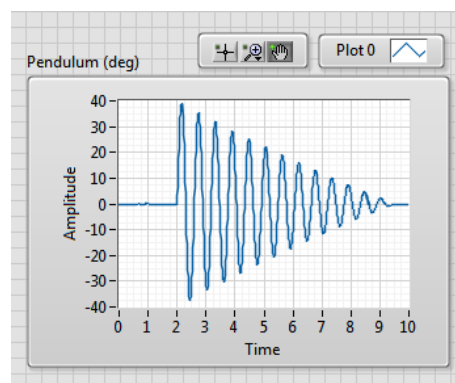

Figure 8.3: Free-oscillation response of pendulum
3. Run the VI. With the controller running, manually perturb the pendulum while holding the rotary arm in place. The scope response should be similar to Figure 8.3.